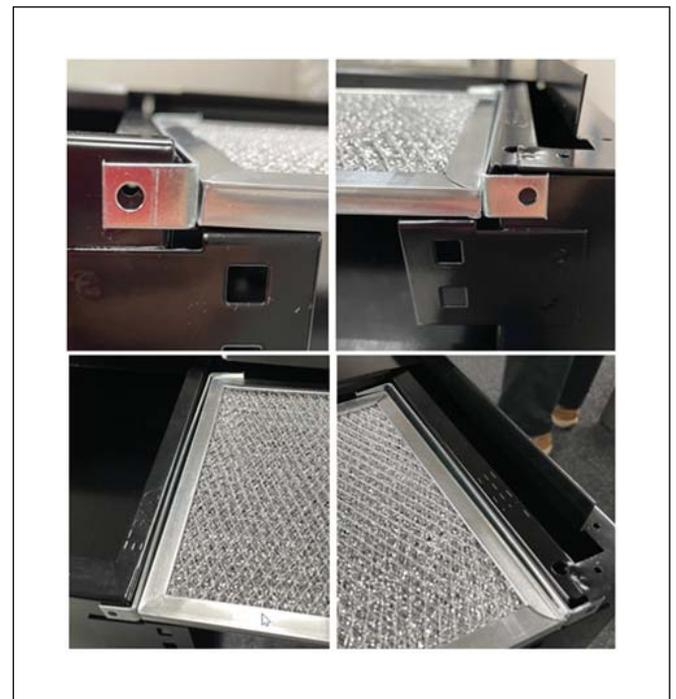

Figure 1
3. Install the new filter brackets on both sides of the filter opening (see Fig.1).